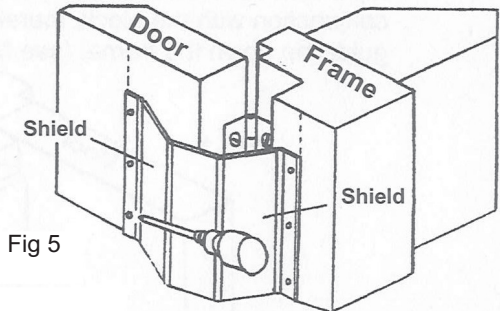

Fig 5
STEP 5 Repeat the process of step 5 to affix to the door. (see fig 5)